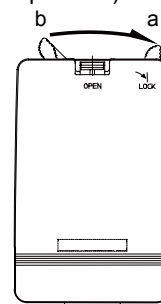

Figure 6. Fixing the main unit on the duct (with the mounting bracket)
- 5) Completely insert the probe into the duct. Then, fix the probe and the bracket by turning the stopper 45 degrees (from 'b' to 'a' (lock position) shown in Fig. 6).